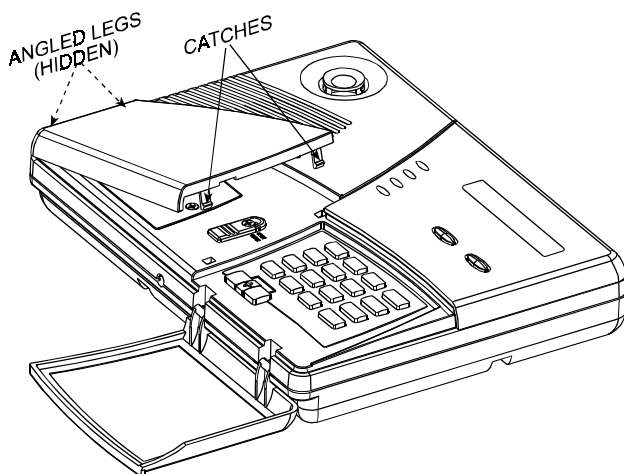
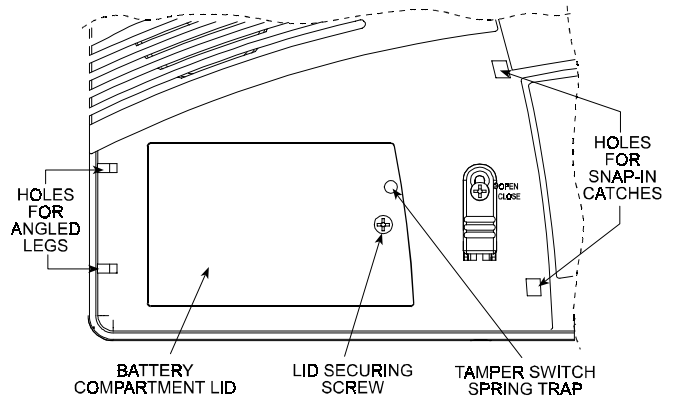

Figure 12. Removing the Left Hand Cover
Figure 13. Battery Compartment Lid
- D. Swing the cover up as shown in Figure 12, then pull free the angled legs at the left and put the cover away. The inner lid will now be in full view (see Figure 13).
- E. Remove the screw that secures the battery compartment lid (Fig. 13), swing the lid up and pull it away. You have thus gained access to the battery holder (see Fig. 13).